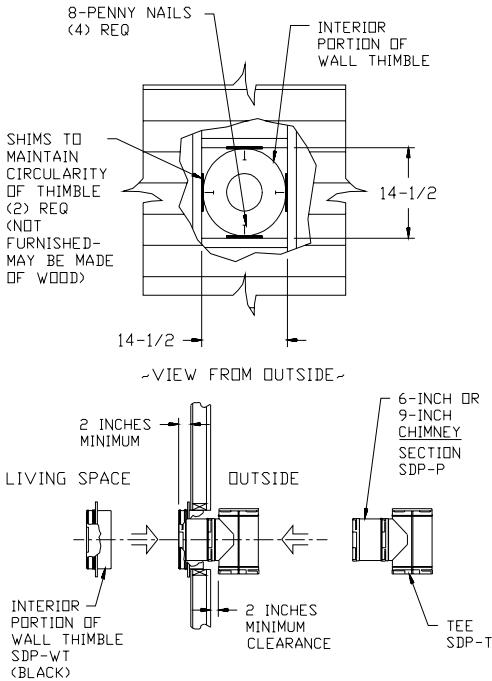

Fig 26
3. Install Wall Thimble: Insert the black section of the **Wall Thimble** into the opening in the wall from inside the room, and align the nail holes with the studs. (Figure 26). Do not nail the black thimble section at this time. Attach